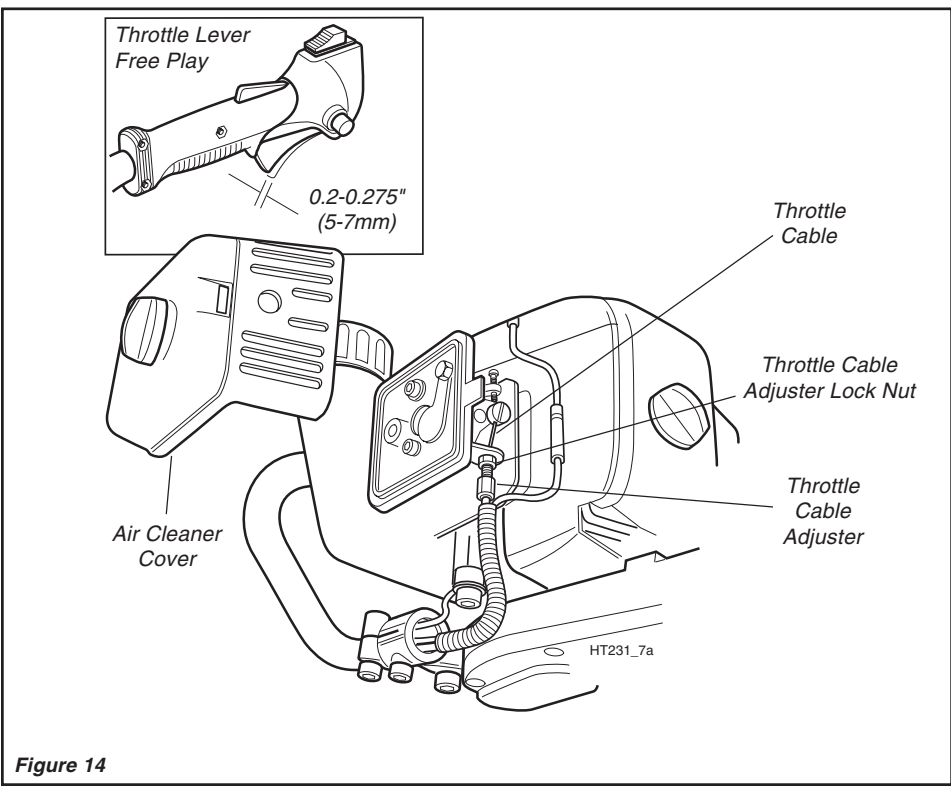

Figure 14
1. Measure free play at the end of the throttle lever. Throttle lever free play should be approximately 0.2-0.275" (5-7 mm). See Figure 14.